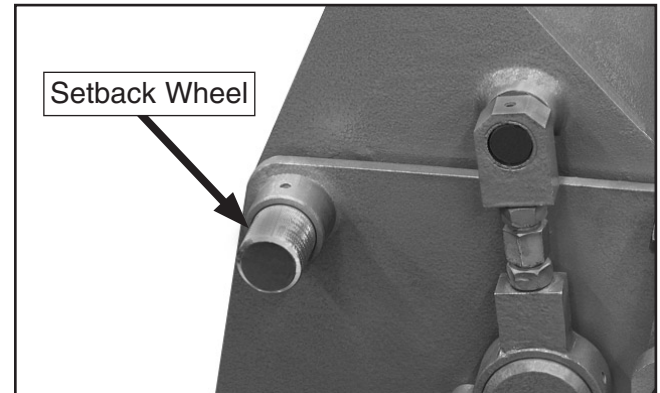

Figure 9. Setback wheel (left side shown).
1. Use the clamping leaf lever to raise the clamping leaf off of the clamping block, then locate the setback wheels located at each end of the machine (**Figure 9**).